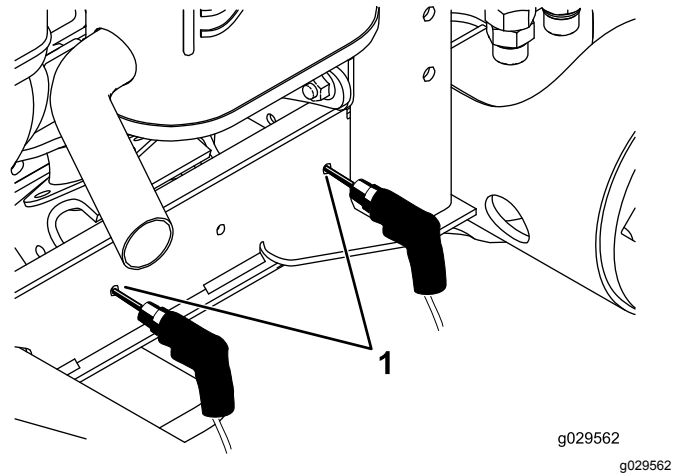

Figure 35
10. At the locations that you marked in step 8, drill 2 holes (0.281-inch diameter) through the frame channel (Figure 35).